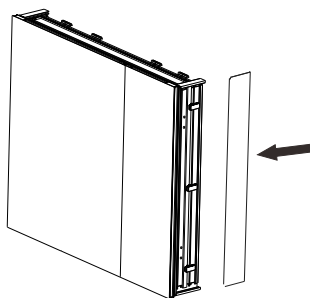

Fig.5
- 2.3 Insert the surrounding aluminum plate into the cabinet bracket (Fig.5).